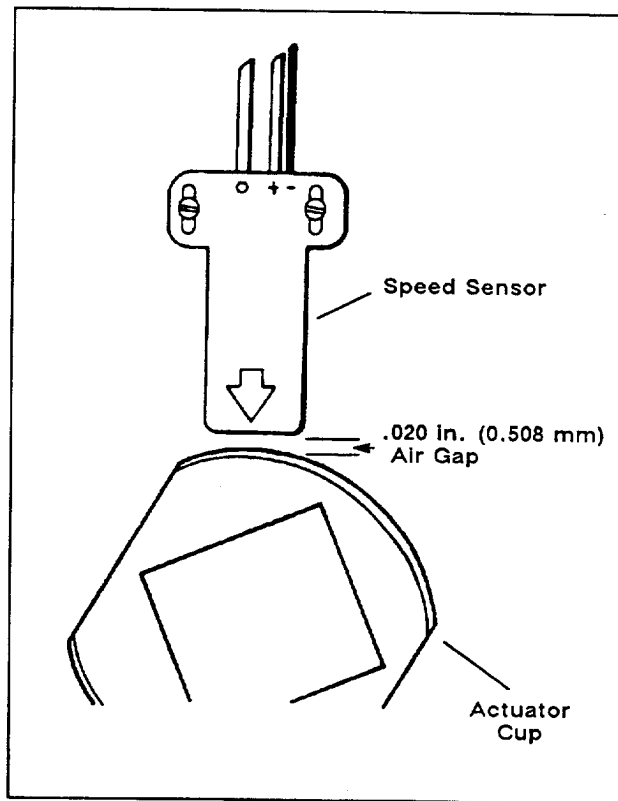

Figure 9. Speed Sensor Air Gap
12. Replace LED board and housing and speed sensor. Set speed sensor air gap at 0.020 in. (0.508 mm) when remounting. See Figure 9.